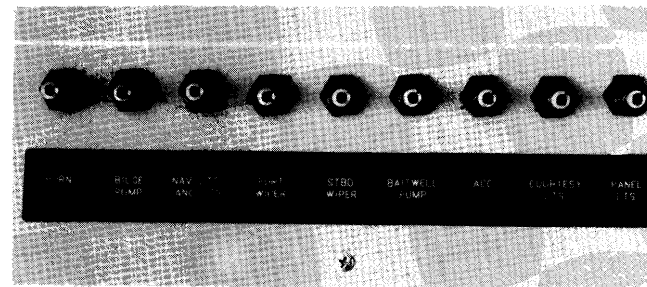

Figure 24
6. Test all switches on the accessory panel. See figure 24. Make sure the switches activate the equipment they control, and all equipment is in good operating condition.